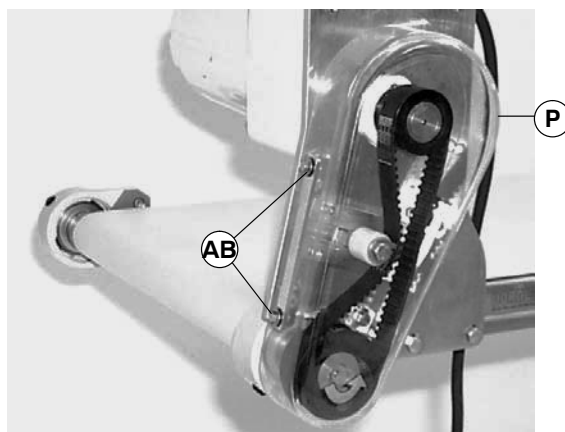

Figure 20
1. Loosen four (4) screws (AB of Figure 20) and remove cover (P).
NOTE: Do not over-tighten screws (AB of Figure 20).
6. Install cover (P of Figure 20) and tighten four screws (AB) to 35 in-lb (4 Nm).